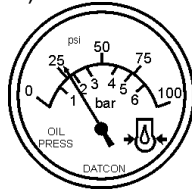

Figure 49. Oil Pressure Gauge
11. The engine oil pressure gauge (Figure 49) will indicate the oil pressure of the engine. Under normal operating conditions the oil pressure is approximately 28 to 85 psi. (193~586 kPa).